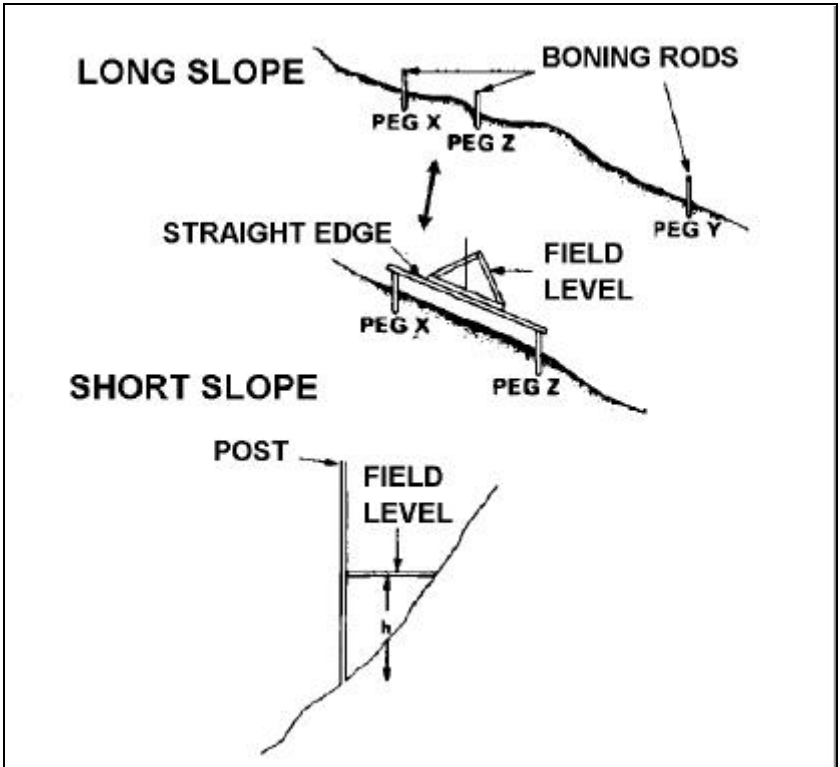

Fig 11-2-3 Measuring Slopes
6. **Field Level.** For short slopes where the surface is uneven the method shown in Figure 11-2-3 is suitable. The level is 1.2 m long and can be used in the folded position with the spirit level up.
7. **Using Boning Rods.** For a long slope, where an average figure is required, boning rods can be used as shown in Fig 11-2-3: